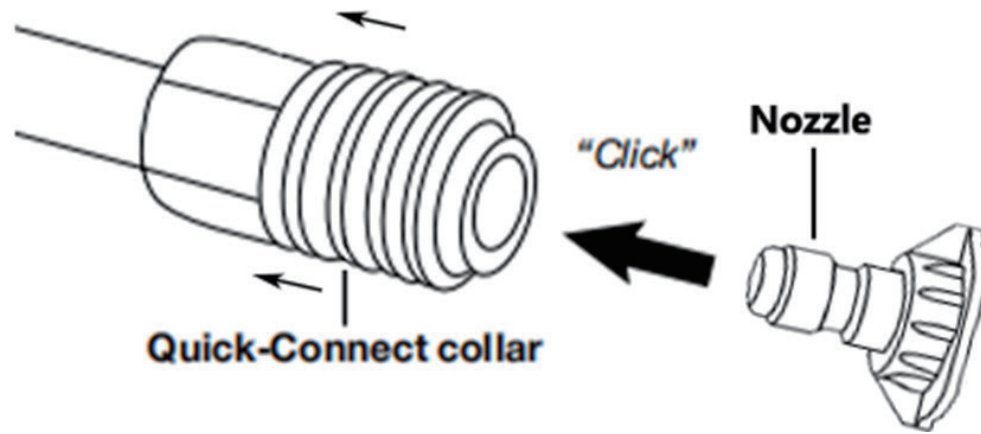

Figure 7: Nozzle Connect
10. Choose the appropriate size nozzle for your work. Use your hands to connect the quick-connect collar slightly downward, the required nozzle will be stuck in the quick-connect collar, release hands and hear the sound of click, indicating that the nozzle is successfully connected. See figure 7.